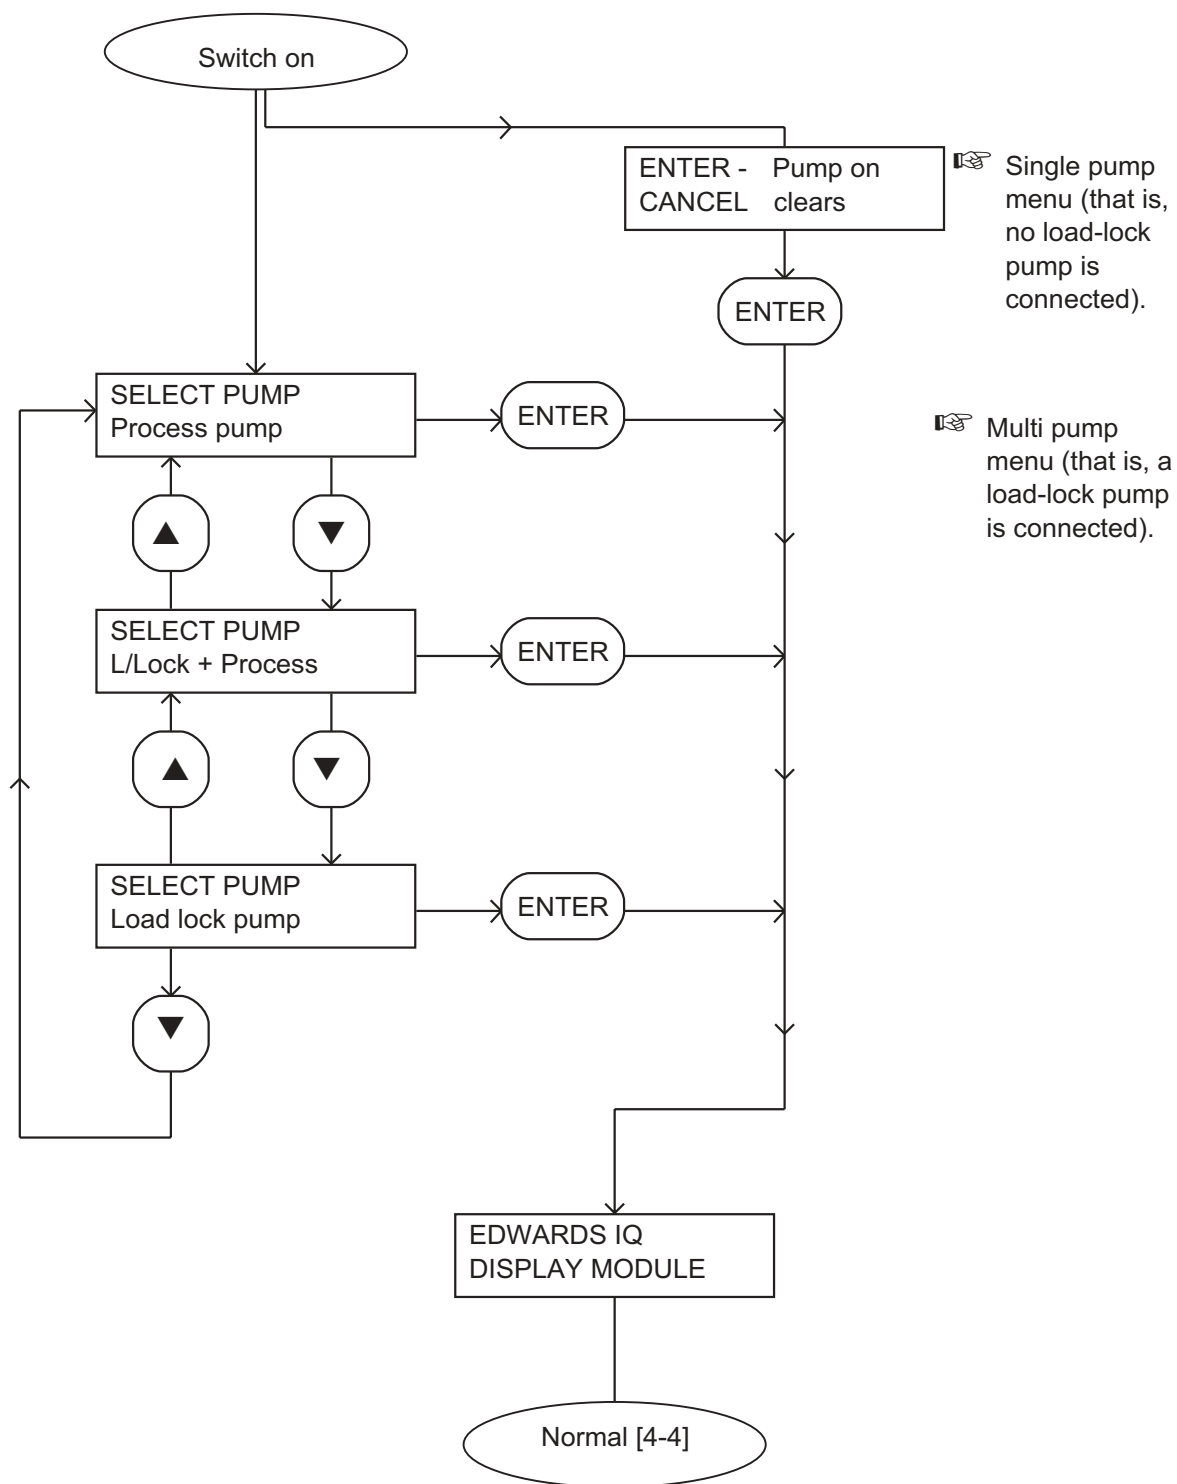

Figure 4-2 - Switch on menu
- In the Switch On and Switch Off menus (Figures 4-2 and 4-3), when you press CANCEL, the menu is exited and the normal display is shown.